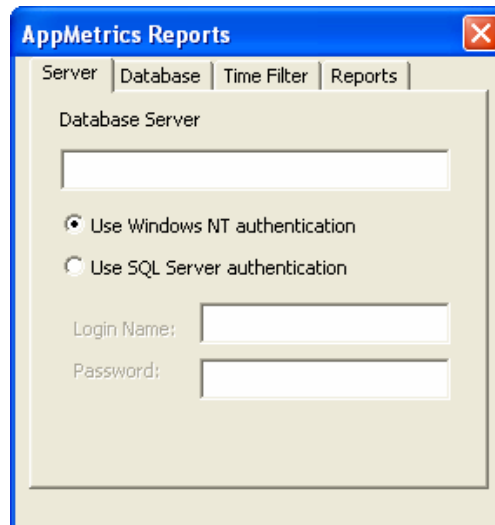

Figure 3
4. First input the Sql Server instance name of your team's AppMetrics Manager in the **AppMetrics Manager Machine** field of the **Manager** tab (see Figure 3).